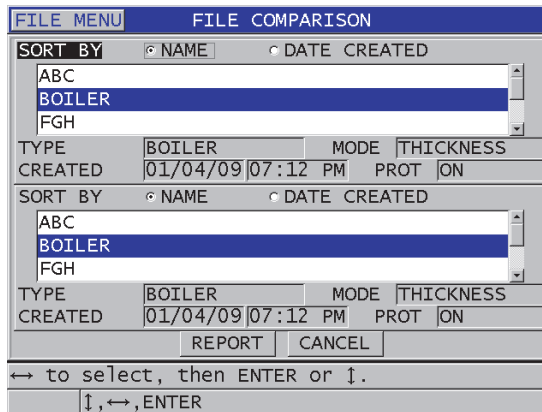

Figure 11-33 The FILE COMPARISON report screen
6. In the **FILE COMPARISON** screen (see Figure 11-33 on page 225):